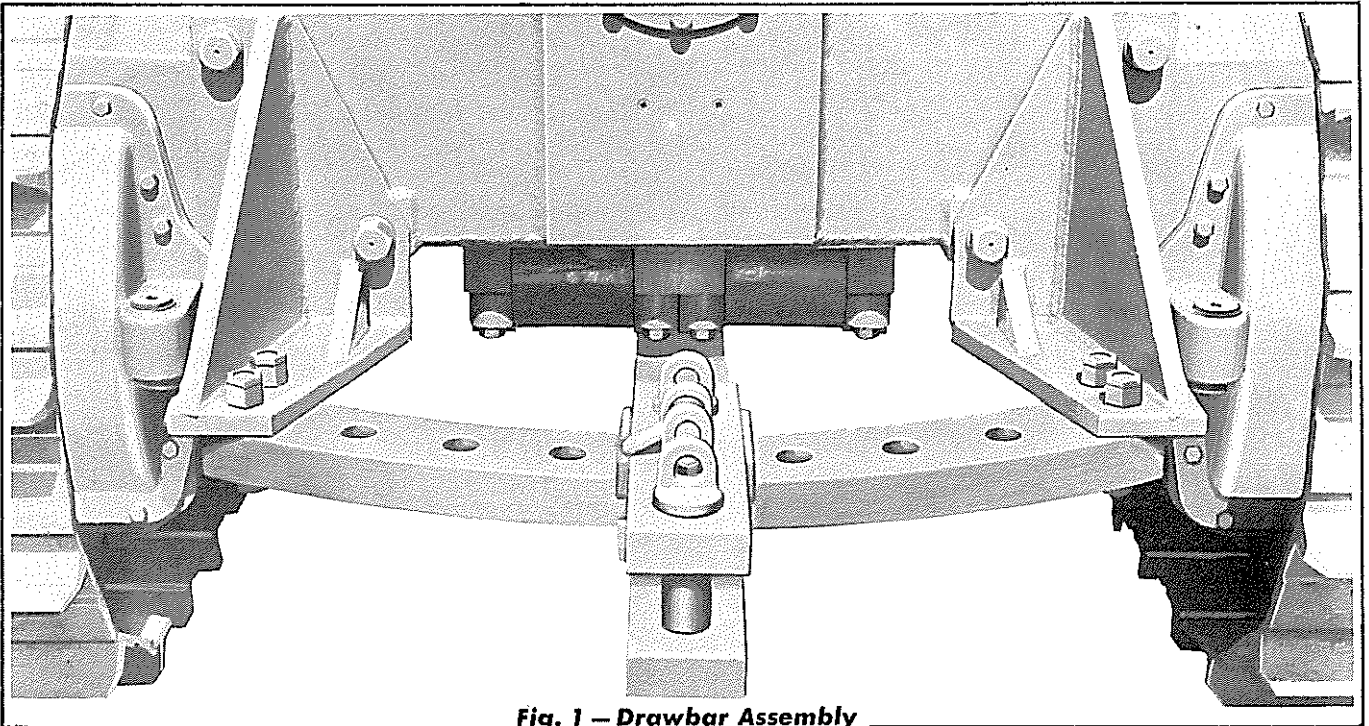

Fig. 1 — Drawbar Assembly
The drawbar group consists, of a drawbar, hinge pin, hinge pin bracket, lock pin, coupling pin, lock shaft, and arm assembly, two (2) shoes (wear plates), drawbar plate, and two (2) drawbar plate brackets. Refer to Fig. 1.